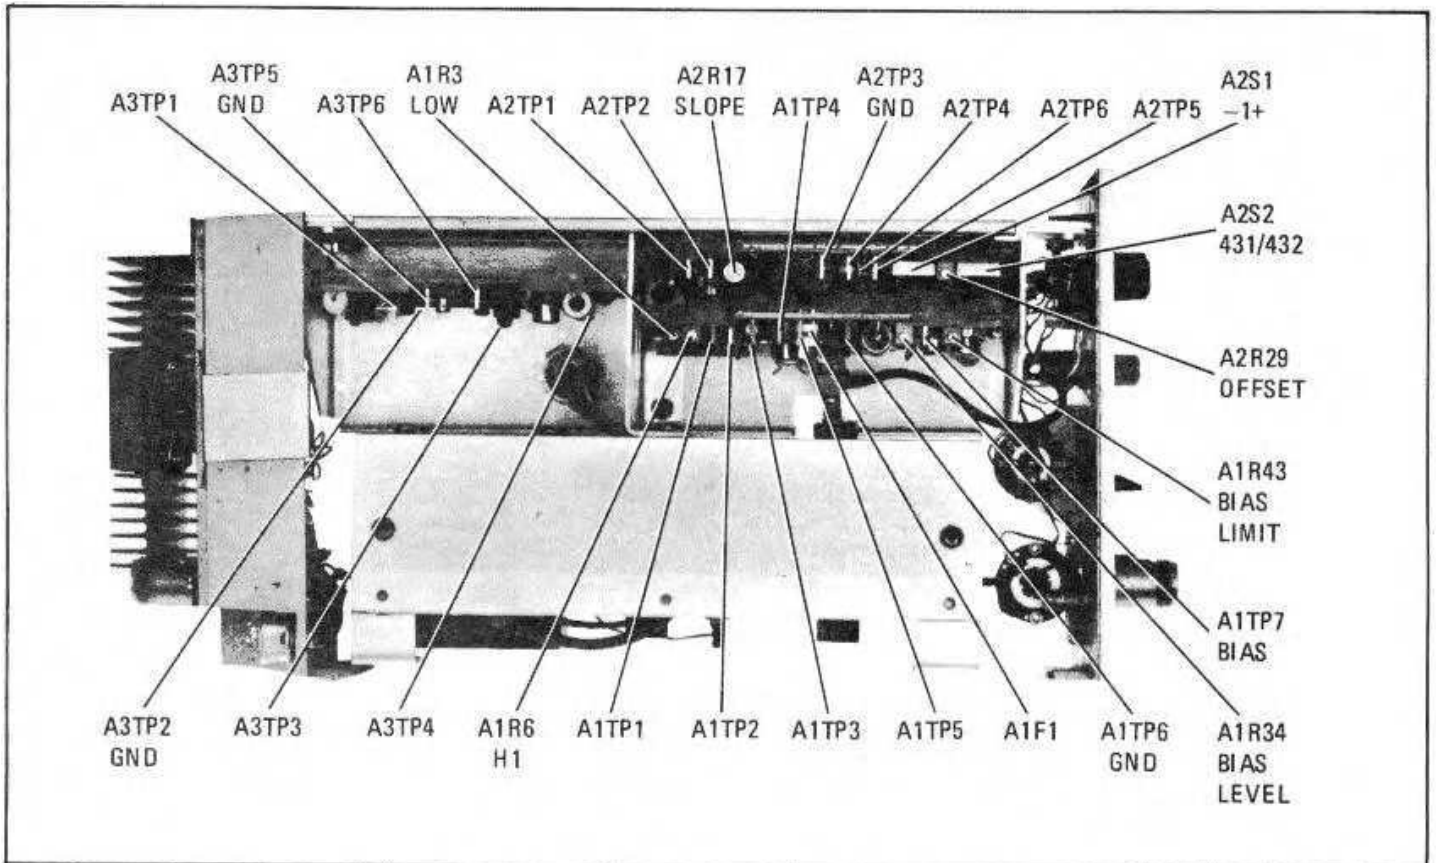

Figure 9-8. Location of Adjustments and Test Points (Top View) (Option 001)
- Replace Figure 8-19 with Figure 9-8.